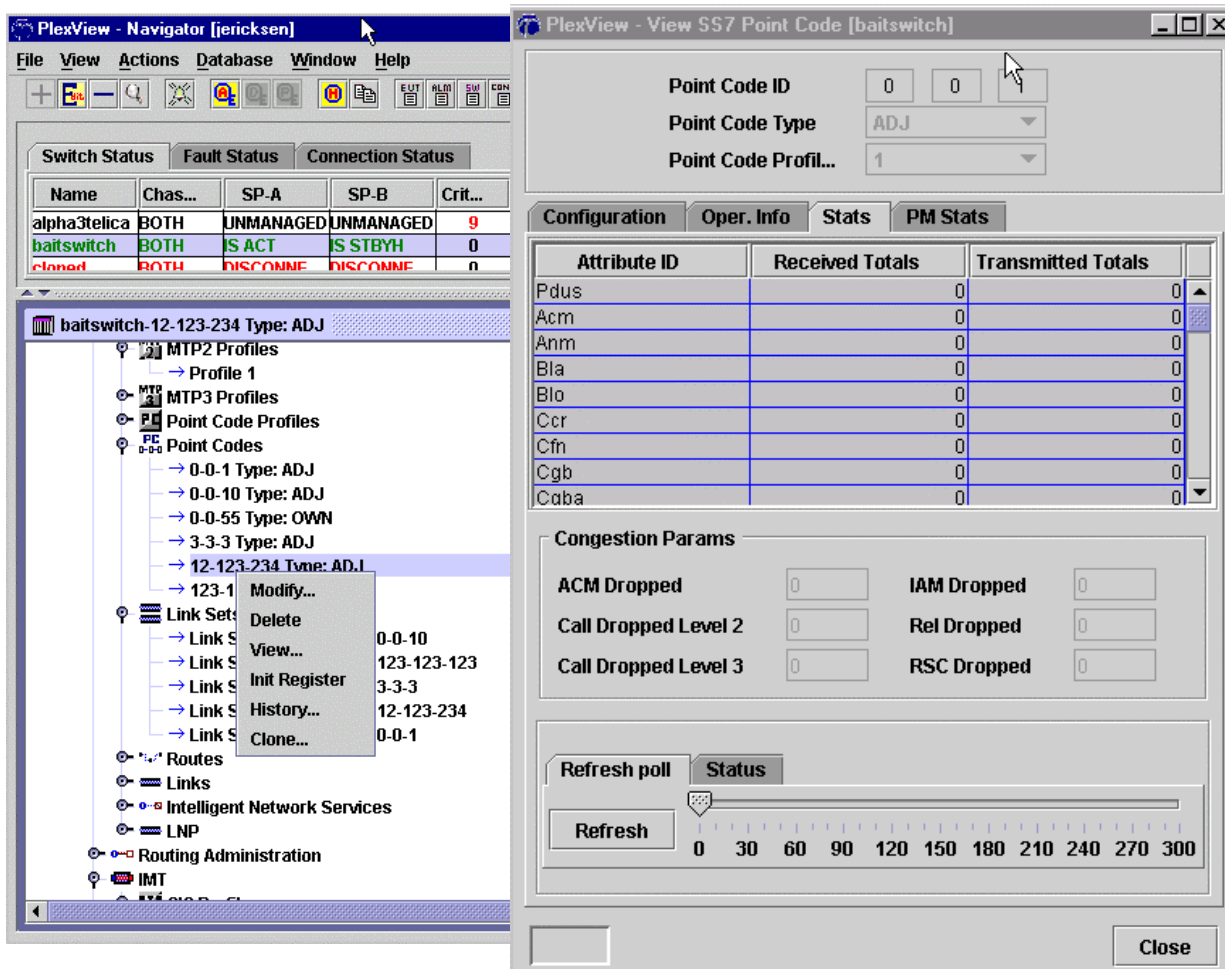

Figure 1. SS7 ISUP Messages Stats
2. Double-click the switch name in the switch status panel to select it for the main panel. Double-click *SS7* and then *Point Codes*. Right-click an interface and select *View, Stats* and then click *Refresh* near the bottom of the panel for latest information. See Figure 1.